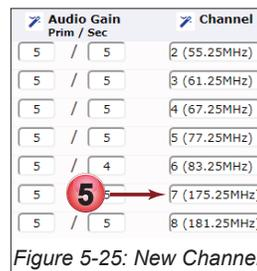

Figure 5-23: Set Analog Output Channel
1. Click the **Channels** tab if it is not already selected, Figure 5-23.